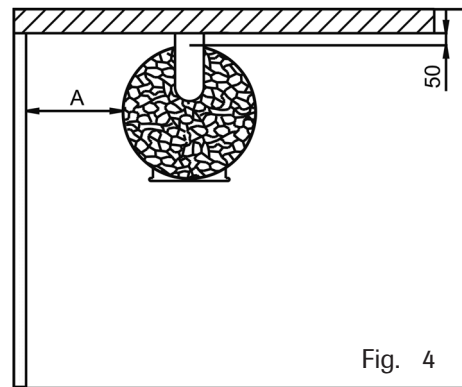

Fig. 4
4. For brick walls, a ventilation gap of 50 mm between the vertical surfaces of the sauna stove and the wall is sufficient. (Fig. 4)